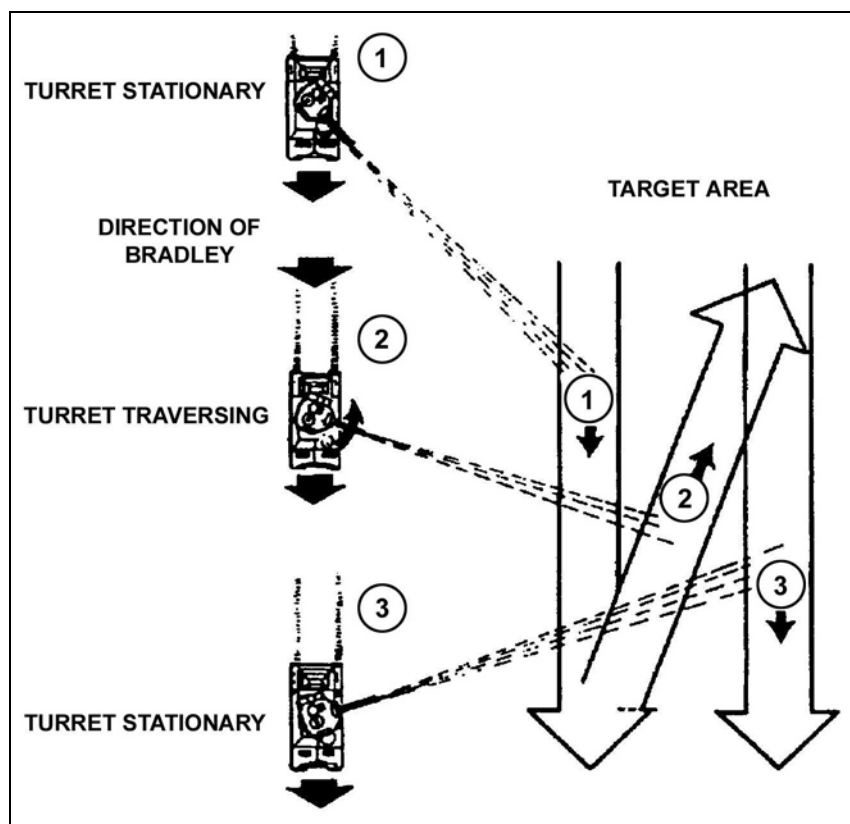

Figure 6-37. Example technique for area target from a moving Bradley.
b. **Example Frontal Area Target.** When a target presents a frontal area, the movement of the BFV's turret and of the vehicle itself carries the burst on through the target (Figure 6-37, page 6-38). Round dispersion also helps cover the width of the target.